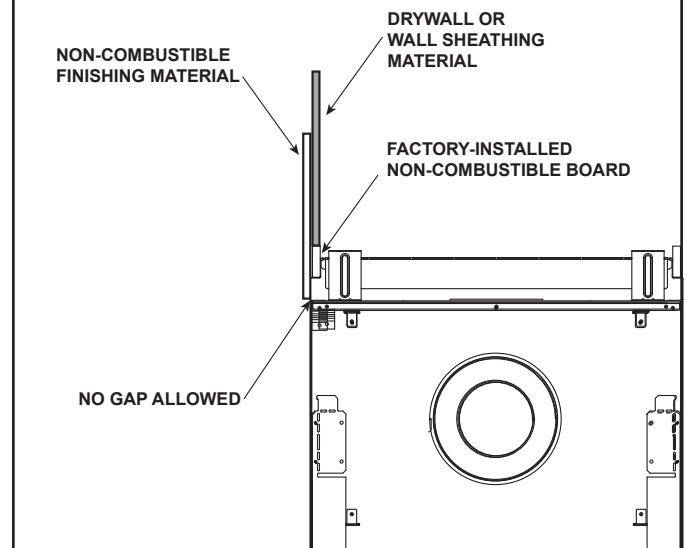
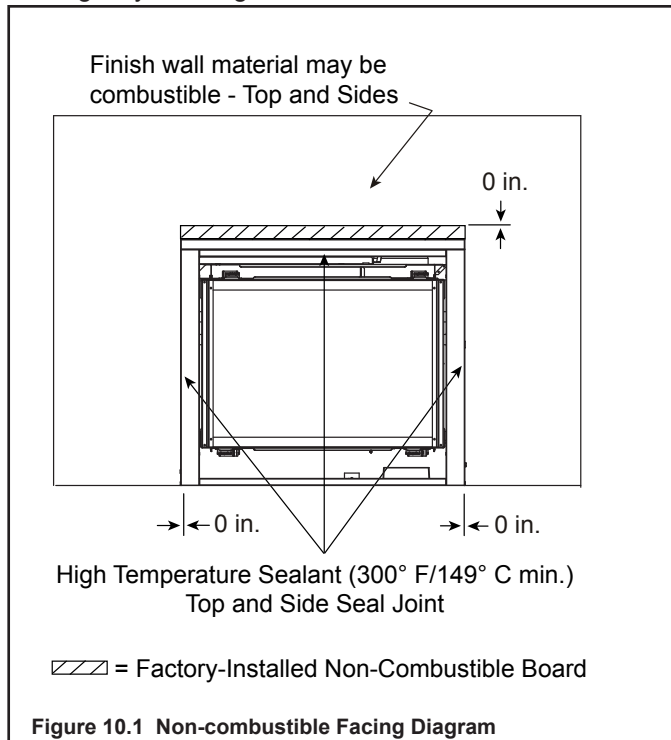

Figure 10.2 Finishing Material Installed
Figure 10.1 Non-combustible Facing Diagram
- Seal gaps between the finished wall and appliance top and sides using a 300 °F minimum sealant. Refer to Figure 10.1 and Figure 10.2.